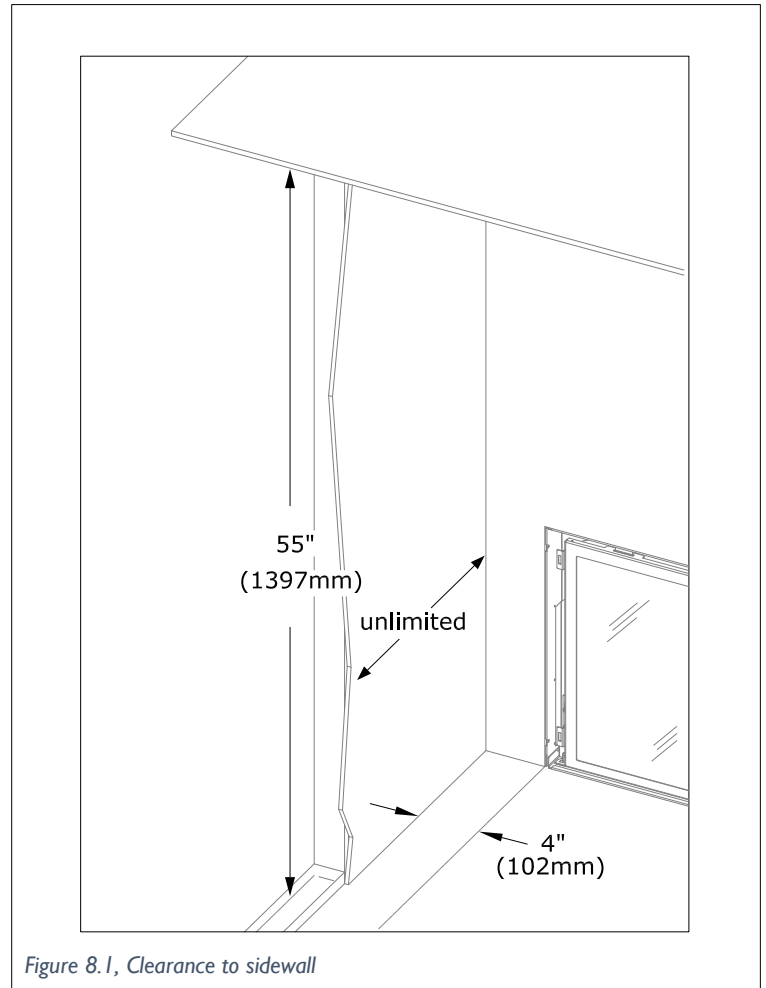

Figure 8.1, Clearance to sidewall
- The adjacent sidewall minimum clearance is 4" (102mm) from the appliance sides (Fig 8.1).
- As shown in Figure 8.1, the minimum clearance from the fireplace enclosure floor to the ceiling is 55" (1.04m).